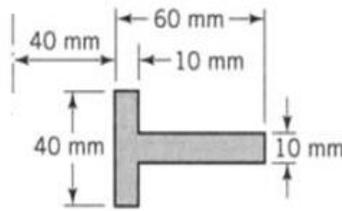

Fig.3
- (OR)
14. A T-section curved beam has the cross section shown in Fig.3 The center of curvature lies 40mm from the flange. If the curved beam is subjected to a positive bending moment $M_x=2.50$ KN-m, determine the stresses at the inner and outer radii. Use Bleich's correction factors. What is the maximum shear stress in the curved beam. [14M]